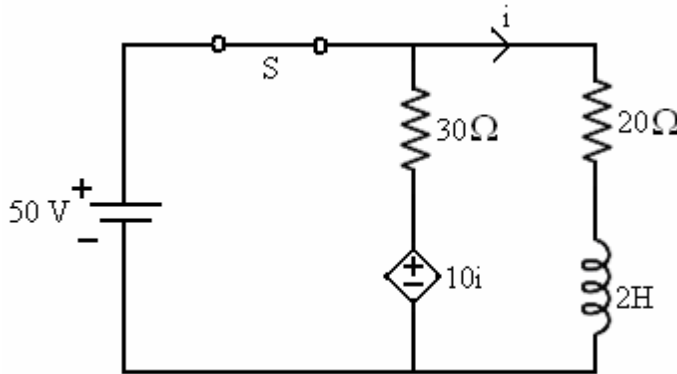

Figure. 1
- 1.a) For the below circuit (Figure.1), find the current in  $20\Omega$  when the switch is opened at  $t = 0$ .